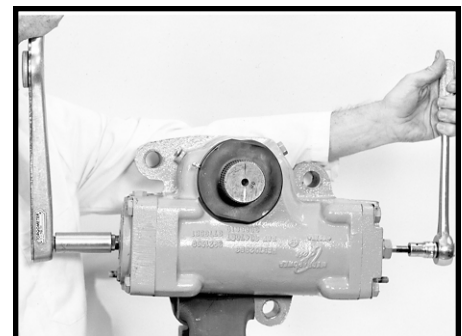

Figure 163
5. Adjust worm shaft/input shaft adjusting screw (38), a 5/16 inch Allen wrench or screwdriver required, to increase maximum worm shaft/ input shaft (16) torque noted in procedure #4 by 10 to 15 in. lbs. (1.1 to 1.7 N m). Torque sealing nut (39) to 70-80 ft. lbs. (95-108 N m) using a 1-1/16 inch socket and check worm shaft/ input shaft torque again. Readjust if worm shaft/ input shaft torque exceeds 35 in. lbs. (4.0 N m). SEE FIGURE 163.